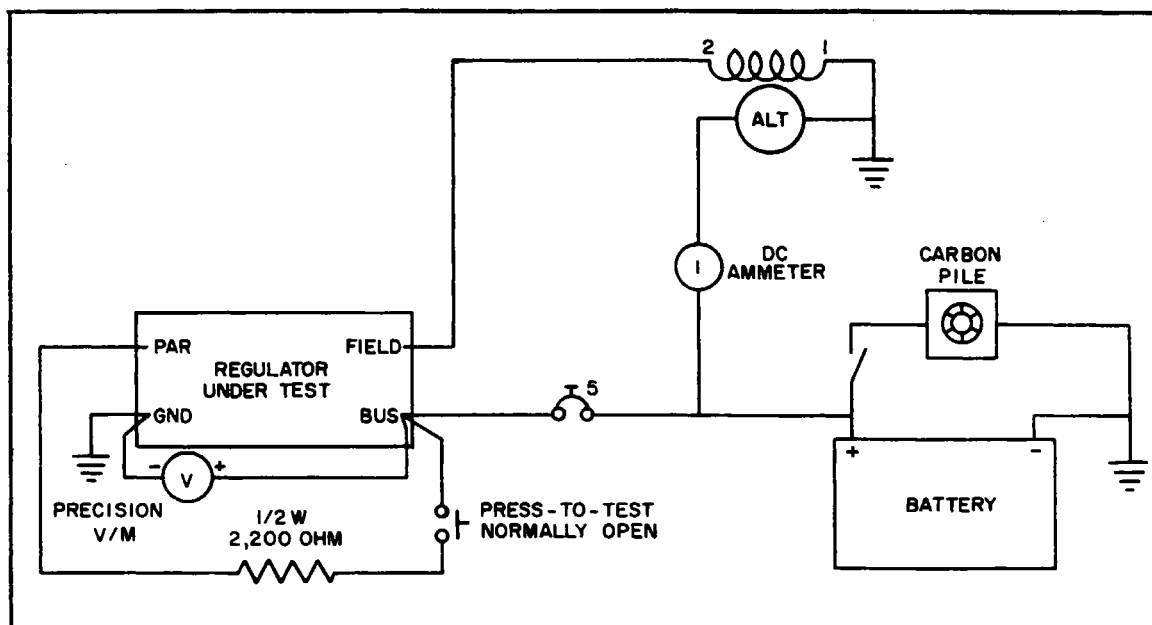

Figure 11-53. Testing Regulator (Lamar)
a. The procedure for testing the regulator, whether on the airplane or on the test bench, remains the same. Connect the test meters and regulator wiring as shown in Figure 11-53.
d. With the connections made as shown in Figure 11-53, start the engine and adjust speed to obtain 900 to 1200 RPM or 3,000 to 4,000 alternator RPM on a test bench setup. Adjust the carbon pile or accessory load to establish the 10 to 15 ampere load value. Note that the battery charge current is indicated by the ammeter. Therefore, the current value may change downward at the beginning of a test run. This will be especially true if the battery was used for engine starting.